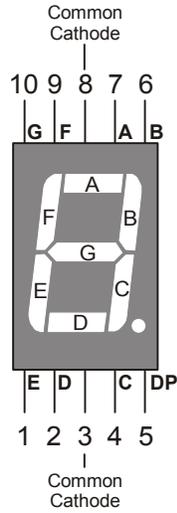
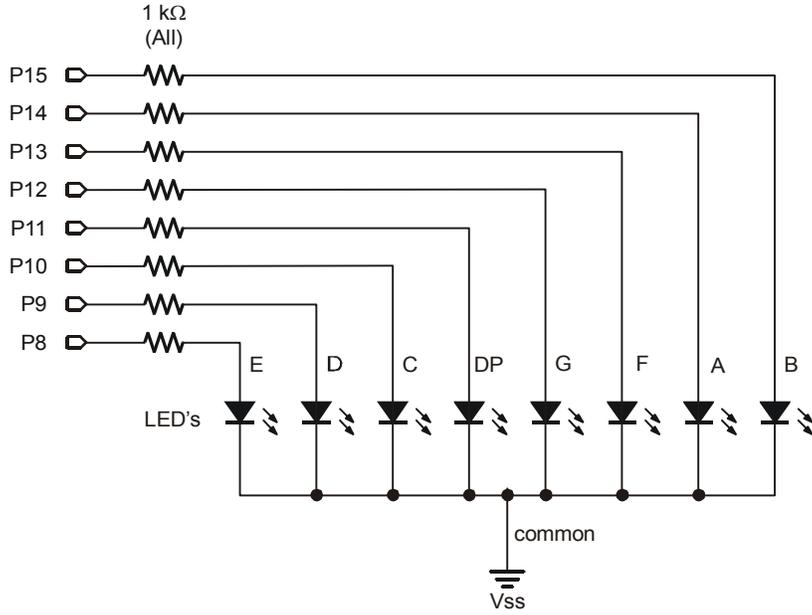
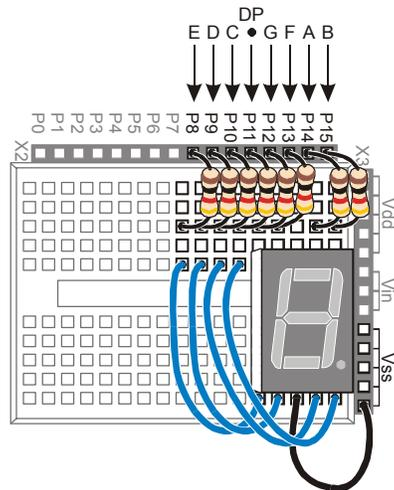

Figure 6-2
Figure 6-10
Figure 6-11
A 7-segment display is rectangular block of 7 lines of equal length that can be lit selectively to display digits and some letters. A very common form is the 7-segment LED display, a package with a rectangular block of 7 LEDs. Figure 6-2 shows a part drawing of the 7-segment LED display you will use in this chapter's activities. It has one additional LED, a dot that can be used as a decimal point. Each of the segments (A through G) and the dot contains a separate LED, which can be controlled individually. Most of the pins have a number along with a label that corresponds with one of the LED segments. Pin 5 is labeled DP, which stands for decimal point. Pins 3 and 8 are labeled "common cathode", and they will be explained when the schematic for this part is introduced.
Pin Map: Figure 6-2 is an example of a pin map. A pin map contains useful information that helps you connect a part to other circuits. Pin maps usually show a number for each pin, a name for each pin, and a reference. Take a look at Figure 6-2. Each pin is numbered, and the name for each pin is the segment letter next to the pin. The reference for this part is its overall appearance. You know by looking at the top of the display that pin 1 is closest to the lower-left corner of the display. Other parts have more subtle references, such as the flat spot on a regular LED's case.
- ✓ Using the pin map from Figure 6-2 as a guide, repeat these steps for segments C through G.
Figure 6-10 shows the schematic and Figure 6-11 shows the wiring diagram for this BASIC Stamp controlled 7-segment LED display example.
- √ Build the circuit shown in Figure 6-10 and Figure 6-11.
Schematic and pin map: If you are trying to build the circuit from the schematic in Figure 6-10 without relying on Figure 6-11, make sure to consult the 7-segment LED display's pin map (Figure 6-2, page 162).
Be careful with the resistors connected to P13 and P14. Look carefully at the resistors connected to P13 and P14 in Figure 6-11. There is gap between these two resistors. The gap is shown because pin 8 on the 7-segment LED display is left unconnected. A resistor connects I/O pin P13 to 7-segment LED display pin 9. Another resistor connects P14 to 7-segment LED display pin 7.